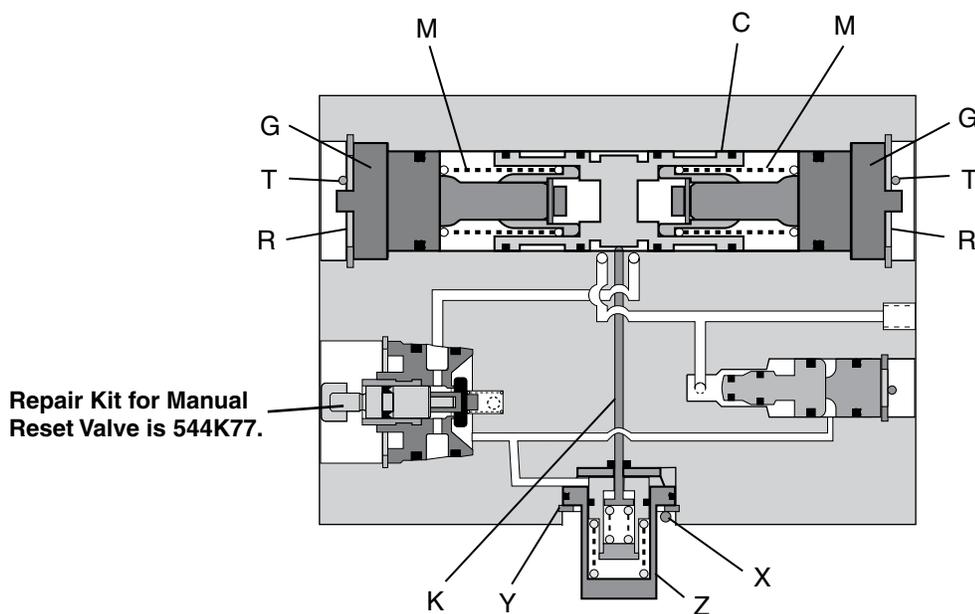

Figure 11 — Cross Section of L-G Monitor
Damaged seals on spool C (Figure 11) can result in air leaks or cause the spool to jam so that the L-G monitor does not function properly.
2. Remove pin X (Figure 11), retaining ring Y, and lockout pin assembly Z.
If lockout pin K (Figure 11) is bent, it will not retract when resetting pressure is applied and the valve remains locked out. See the disassembly instructions in *Repair Procedure E* to remove the lockout pin. Assembly with a new pin (lockout pin kit is 542K77) is the reverse of disassembly.